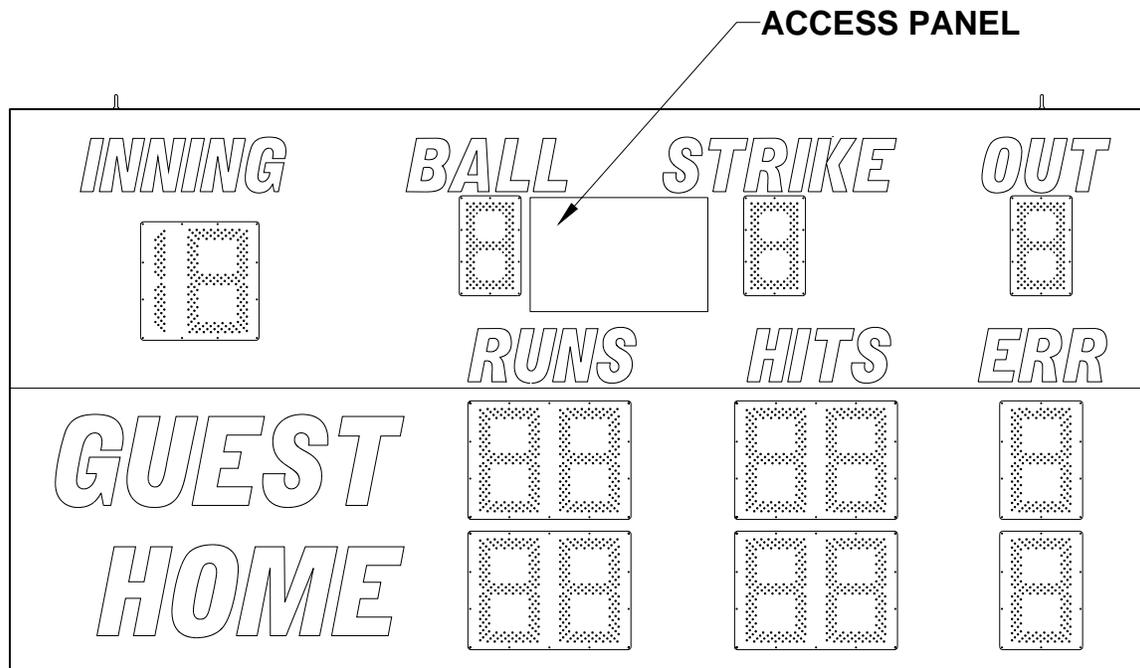

Figure 6 Front Access Panel
3. Remove the front access panel and the dome plugs on the plate on the rear side of the scoreboard. Figure 6 shows the location of the access panel.